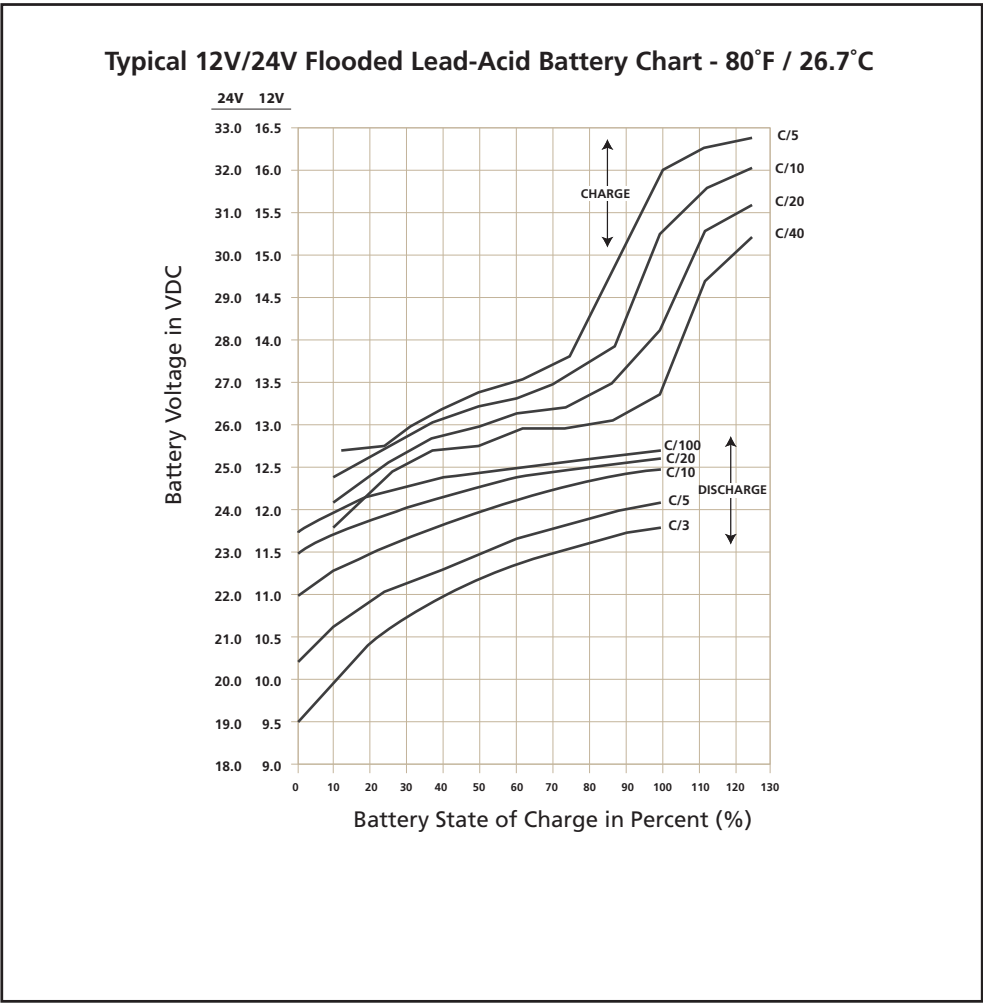

Fig 1.4.1 Charging / Discharging Curves for Typical 12V/24V Flooded Lead Acid Battery
1.4.11.1 Fig 1.4.1 shows examples of State of Charge / Discharge Curves for different C-rates for typical 12V / 24V Lead Acid Battery at 80°F / 26.7°C. These curves are used to determine the State of Charge / Discharge of the battery based on its terminal voltage.
1.4.11.2 Example of Determining State of Charge (using Fig 1.4.1) when Charging 12V, 100Ah Battery at C-rate of 0.1C or C/10 or 10A: Refer to Charge Curve marked C\10 of the upper 4 curves marked “CHARGE”. States of Charge at different battery terminal voltages will be: (a) At 15.3V = 100% charged; (b) At 14.3V = 90% charged; (c) At 13.5V = 70% charged; (d) At 12.5V = 15% charged
1.4.11.3 Example of Determining State of Discharge (using Fig 1.4.1) when Discharging 12V, 100Ah Battery at C-rate of 0.33C or C/3 or 33.3A: Refer to Charge Curve marked C\3 of the lower 4 curves marked “DISCHARGE”. States of Discharge at different battery terminal voltages will be: [a] At 9.5V = 100% discharged (0% charged); [b] At 10.4V = 80% discharged (20% charged); [c] At 11.5V = 28% discharged (72% charged) and [d] 11.75V = 0% discharged (100% charged)
The discharge curves in Fig. 1.4.1 show the % State of Charge versus the terminal voltage of typical Flooded Lead Acid Battery under different charge /discharge currents, i.e. “C-rates” and fixed temperature of 80°F. (Please note that the X-Axis of the curves shows the % of State of Charge. The % of State of Discharge will be 100% - % State of Charge).
As stated earlier at Section 1.4.14, the buzzer alarm is triggered when the voltage at the DC input terminals of the inverter has dropped to around 10.5V for a 12V battery or 21V for 24V battery at C-rate discharge current of C/5 Amps. Please note that the terminal voltage relative to a particular State of Discharge decreases with the rise in the value of the discharge current. For example, terminal voltages for a State of Discharge of 80% (State of Charge of 20%) for various discharge currents will be as given at Table 1.4.5 (Refer to Fig. 1.4.1 for parameters and values shown in Table 1.4.5):
Inverters are normally provided with a protection to shut down the output of the inverter if the DC voltage at the input terminals of the inverter drops below a threshold of around 10V for a 12V battery or, 20V for 24V battery. Referring to the Discharge Curves given in Fig 1.4.1, the State of Discharge for various C-rate discharge currents for battery voltage of 10V / 20V is as follows: (Please note that the X-Axis of the curves shows the % of State of Charge. The % of State of Discharge will be 100% - % State of Charge):